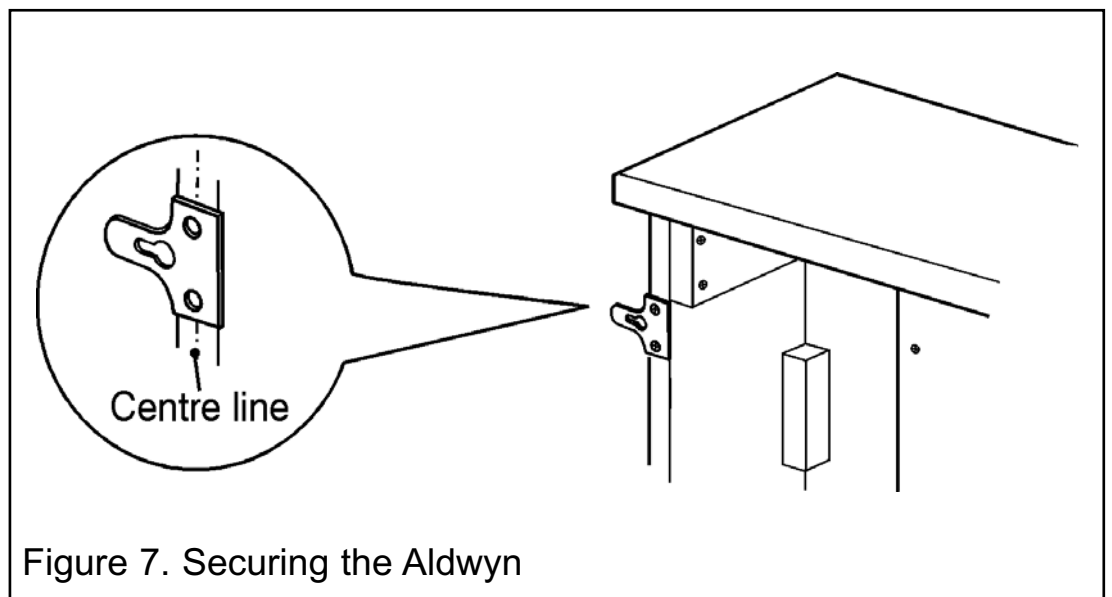

Figure 7. Securing the Aldwyn
1. Place the wall fixing brackets as shown in figure 7. Ensure that the two fixing holes in the brackets are positioned in the centre of the outside edge of the leg. The wood may split if the fixing holes are not central. Secure in place using four 15mm long screws.